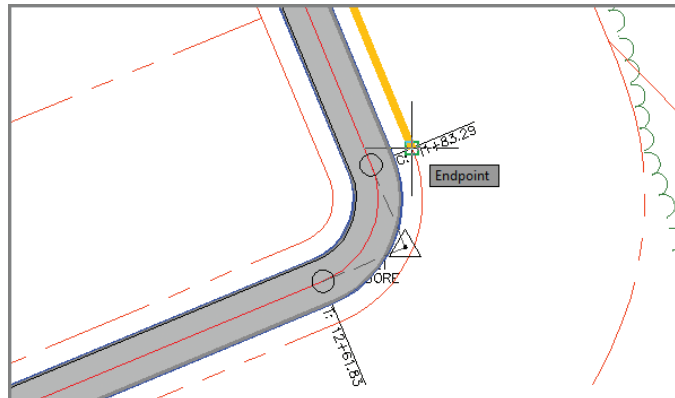

FIGURE 12.10 Selecting the endpoint of the frontage
6. Move your cursor in a southeastern direction along the frontage line. Note the orange “highlighter” that follows your cursor. Snap to the endpoint of the curve at station 11+83.29 (0+360.67), as shown in Figure 12.10.